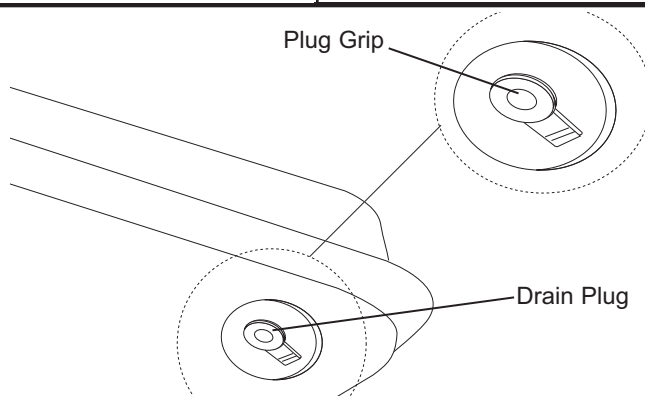

Figure 11. Drain Plug Removal
2. To remove the Drain Plug (125/175/215), pull the Plug Grip downward and remove seal head from drain hole in tank (See Figure 11).